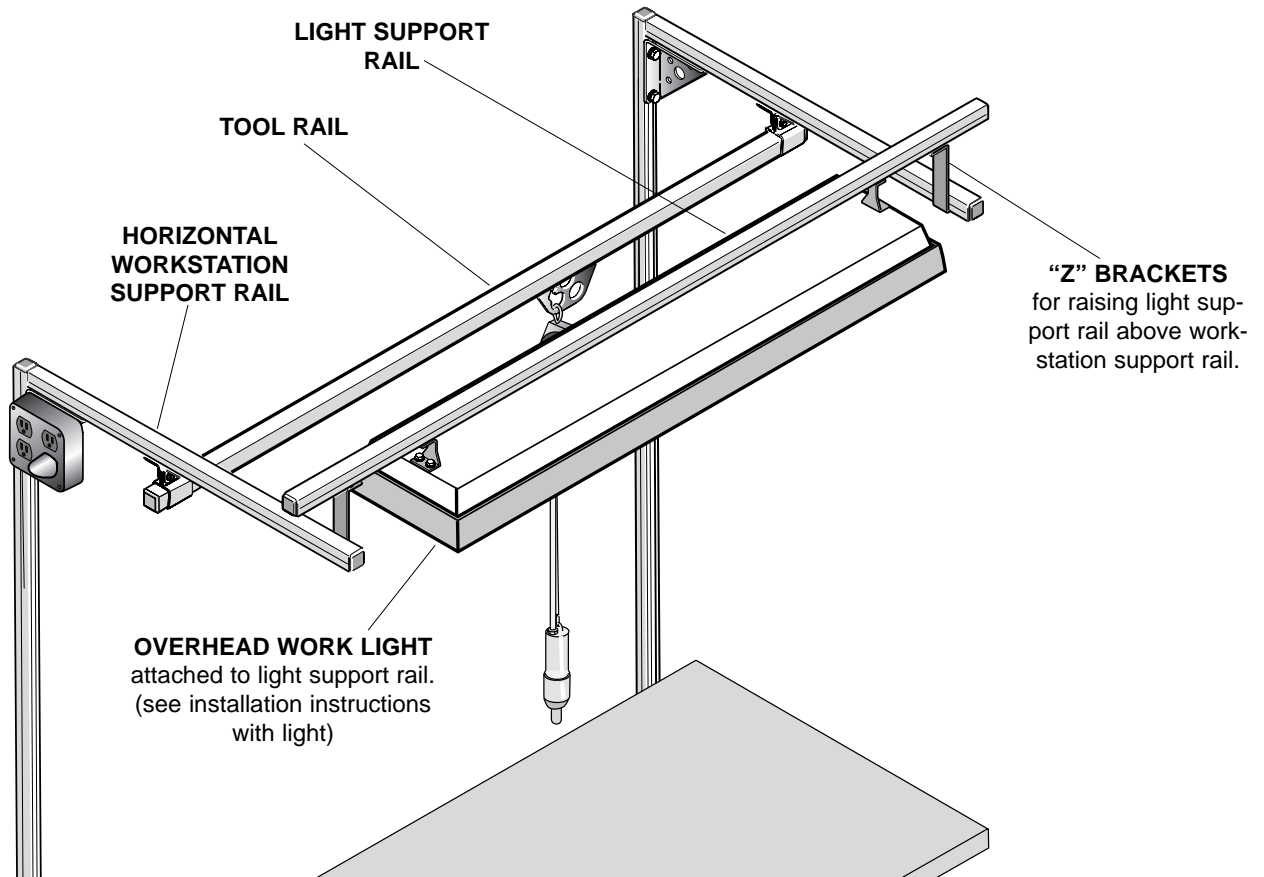

Figure 1-Reference Drawing
2. Install light, centering it on light support rail (Fig. 1) as shown in separate instructions provided with light.
3. Loosen track nuts on “Z” brackets and slide into ends of light support rail (Fig. 1). Finger tighten only.